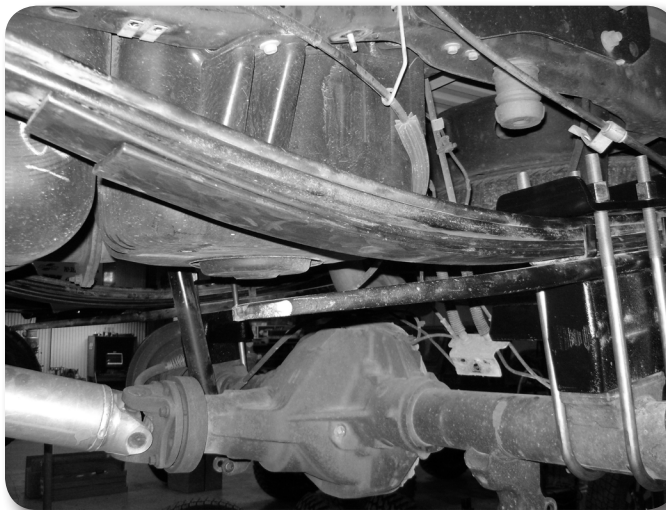

Figure 22
11. Locate the supplied dual add-a-leafs and reassemble the leaf pack with the new add-a-leafs in place. The leaf pack should be assembled as a pyramid with the longest leaf on top to the shortest leaf on the bottom. Reinstall the center pin nut and torque to 40 ft-lbs. **Figure 22** The u-bolts, top plate and bottom plate will not be reused.